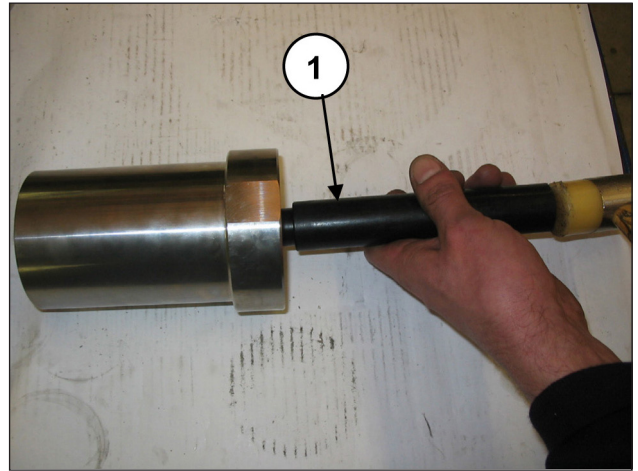
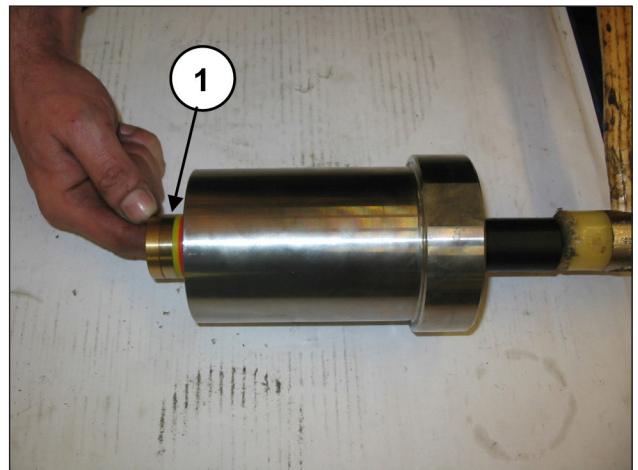

Fig. 114
Fig. 115
With the liner separate from the seal support and with the special plastic pin (pos. ①, Fig. 114) have the HP (high pressure) pack come out (pos. ①, Fig. 115).
At each disassembly, the HP packing (pos. ①, Fig. 115) must be replaced.